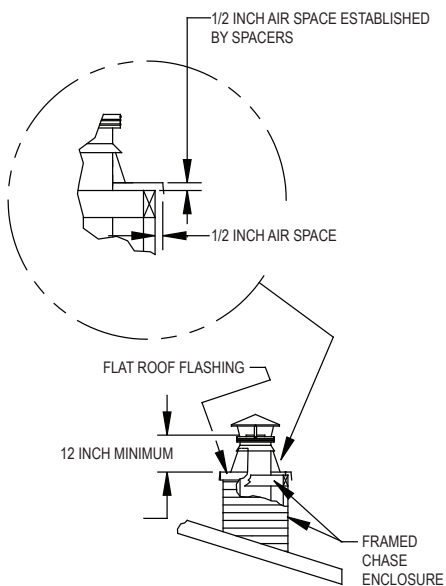

Figure 29
7. Install Chase Cover. If a chase enclosure has been constructed, installing the chase cover requires some special considerations. The chase must be ventilated at the top and a 1/2-inch air gap must be established between the cover, and the framed chase top. In addition, a 1/2-inch air gap should exist between the hole in the cover, and the Chimney Pipe Sections. **Figure 29** displays in some detail, how these air gaps are established with locally fabricated spacers and covers. These are not furnished by DuraVent, but may be made from 28 gage or heavier sheet metal. Should the installer elect to use Flat Roof Flashing, (which is a stock item), the air spaces are still required. When installing the Storm Collar, do not push it down all the way to the cover, but allow an air space for flow between the Chimney Pipe and the hole in the cover.